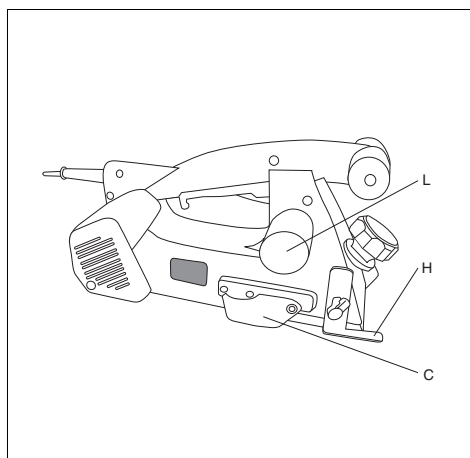

Fig. 2
The rebating depth stop can be used by planing for example a window- or doorpost. Loosen the locking nut and adjust the required rebating depth with the scale (Fig.2, H).
- Use a suction device to suck off wood shavings or dust. For this use the connecting pipe (Fig. 2, L accessories) and connect a suction pipe to it.